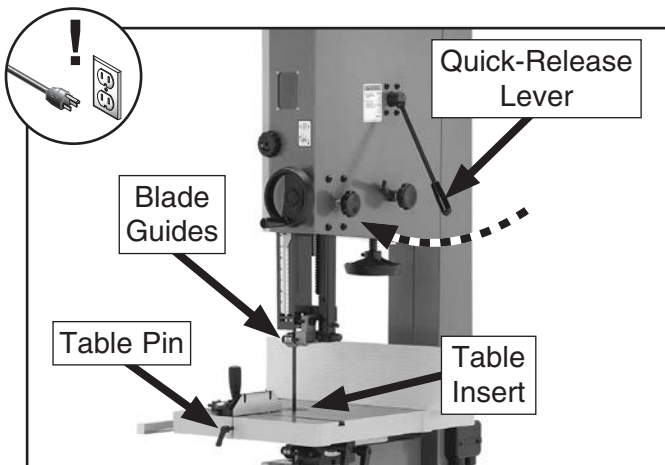

Figure 74. Blade changing controls (G0513X2 shown).
2. Release blade tension by turning blade tension quick-release lever to the left (see **Figure 74**).
3. Remove table insert and table pin (see **Figure 74**). Adjust upper and lower guide bearings as far away from blade as possible.